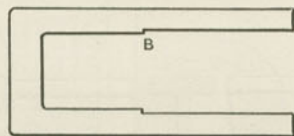

Fig. 212. Connecting Rod Strap.
*A. By slotting the seat a little narrower than the stub end, so as to give plenty of metal for wear. (See Fig. 212.)*